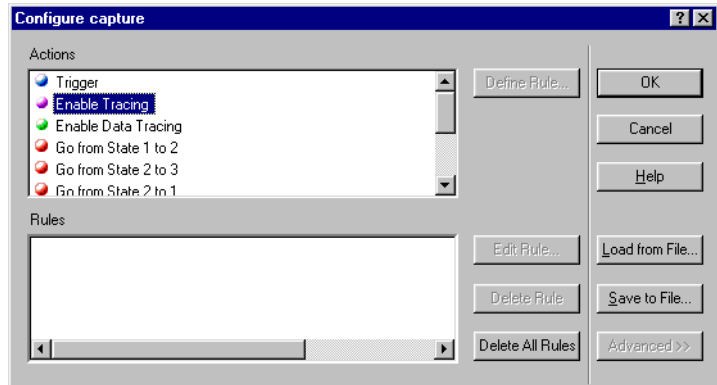

Figure 8-20 Configure capture dialog box
1. Set the tracing conditions by selecting **Configure Capture** from the **Trace** menu. The **Configure capture** dialog box is shown in Figure 8-20 on page 8-24.